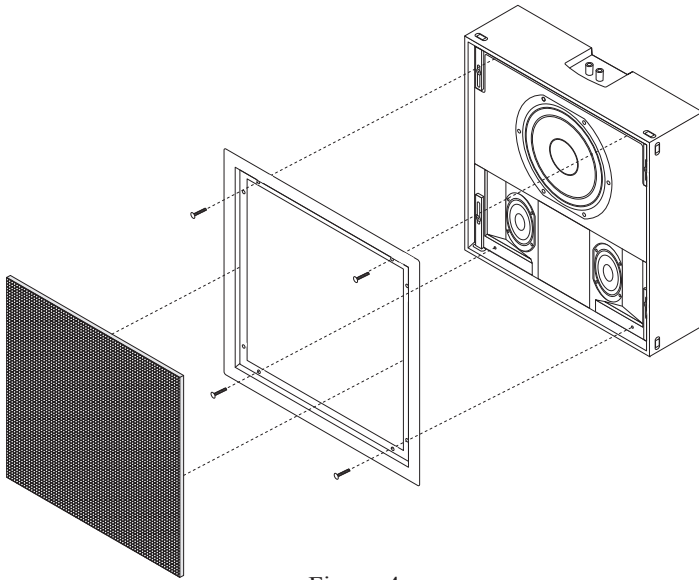

Figure 4
1. Determine the location where you wish the HT30-IW Loudspeakers to be installed in the wall using the supplied template. Refer to figure 4.